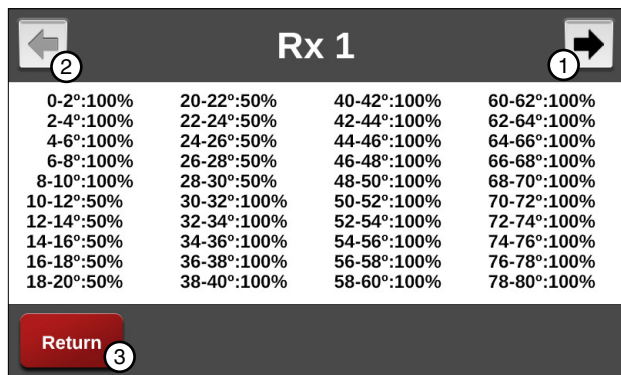

Figure 162-2 Review Rx Screen
3. Push the **Review Rx** button to display the Review Rx Screen. Refer to Figure 162-2.